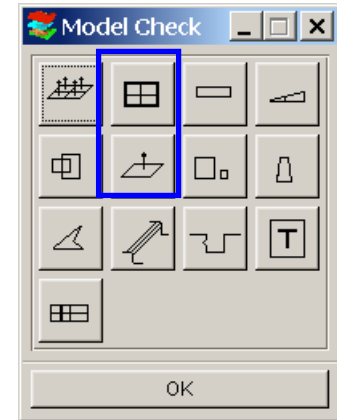

Figure 3.4
- a) Select **MODEL CHECK** (See Figure 3.4)